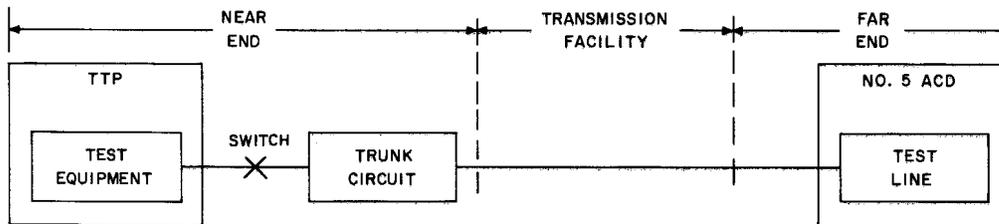

Fig. 3—Transmission Measurement to No. 5 Crossbar ACD
3.03 ♦The following procedure is used to set up a connection to, and seize, a No. 5 crossbar ACD trunk (Fig. 3). This procedure applies to offices equipped with EF-1 or later generics only.
3.04 When testing No. 5 Crossbar ACD ◆loop◆ trunks in a Central Office equipped with LO-1 generic program, use the following steps to connect TTP, trunk, and test line instead of the steps given in each test (Fig. 3). In office with EF-1, ◆or later generics,◆ see 3.03.